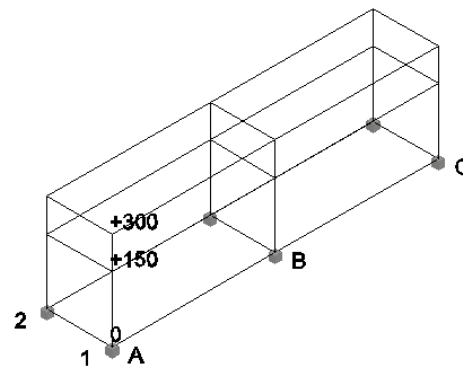

Figure 3-29 Model after adding footings
3. Choose the **Footing** tool from the **Parts** panel; you are prompted to select the insertion point. Place all the footings at the bottom grid points, as shown in Figure 3-29.